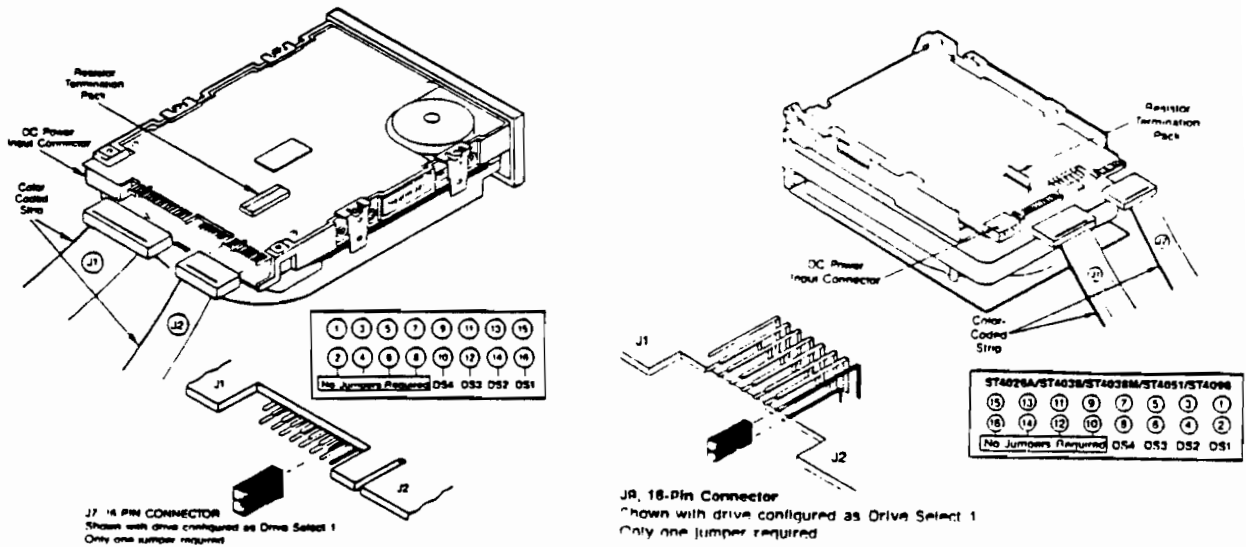

Figure 4
10. Connect the hard disk drive cables to the hard disk drive. The large 34 position ribbon cable is attached to J1 on the circuit board of the hard drive and the small 20 position ribbon cable is attached to J2 on the circuit board of the hard drive. The colored line on the cables represent pin one. The notch on the circuit board of the hard disk also represents pin one. Pin one on the cable set must connect to pin one on the drive. See figure 4 on page 8.
7. Examine your hard disk drive. If a single hard drive is to be installed, be sure the drive select jumper is set on DS1, drive select one. If a second hard disk is to be installed, set the jumper on the second drive to DS2, drive select two, and remove the second resistor terminator pack. For Seagate 200 and 4000 series drives see figure 4 on page 8.
9. After mounting the hard disk drive connect the hard disk cables to the drive. The large 34 position ribbon cable is attached to J1 on the circuit board of the hard drive and the small 20 position ribbon cable is attached to J2 on the circuit board of the hard drive. The striped edge on the cables represent pin one. The notch on the circuit board of the hard disk also represents pin one. Pin one on the cable set must connect to pin one on the drive. See figure 4 on page 8.